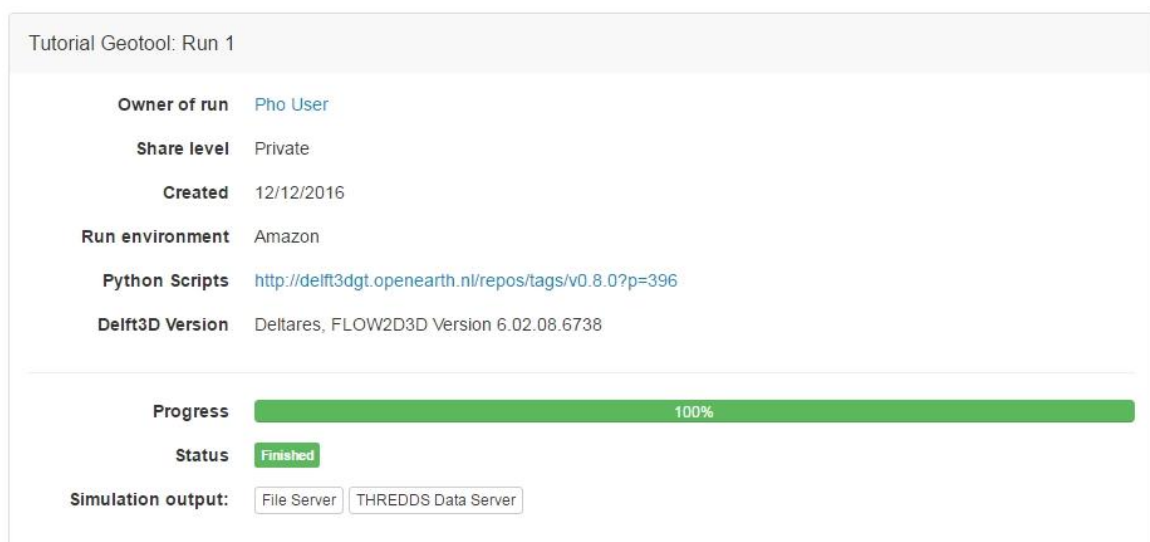
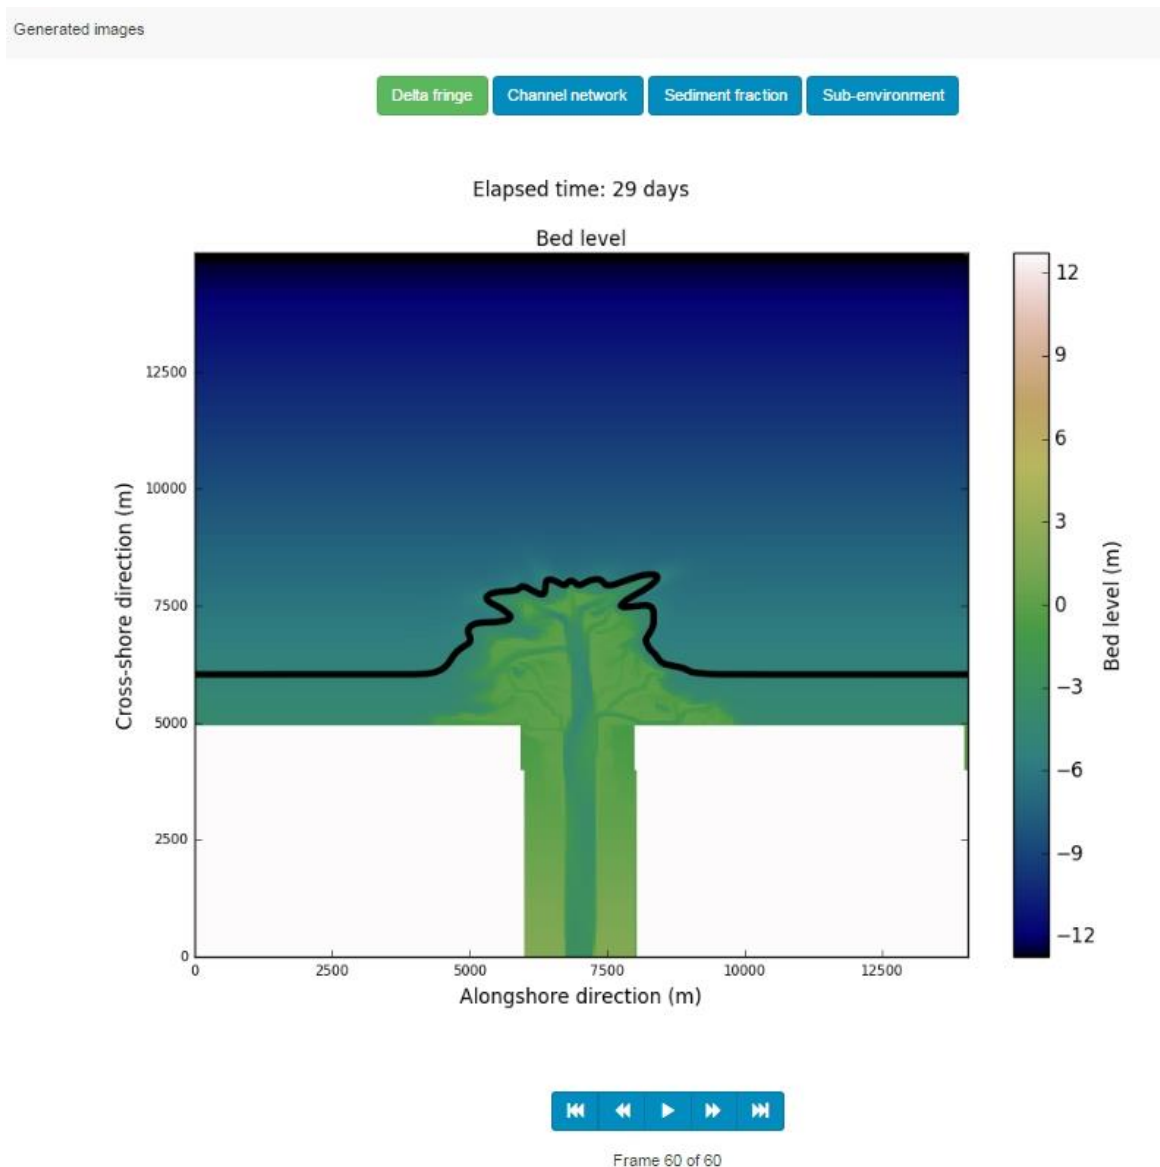
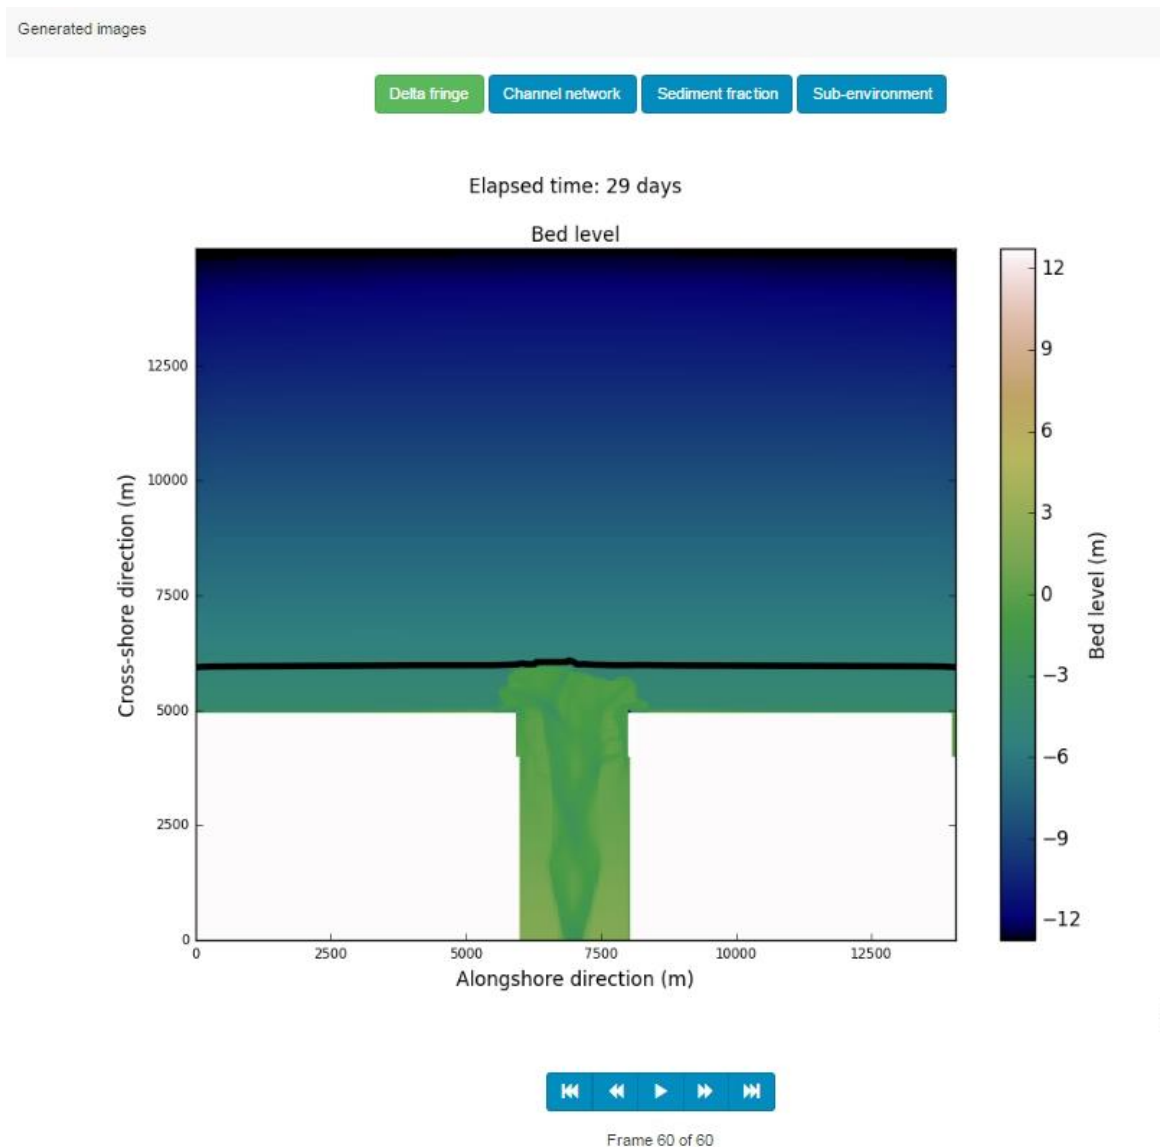

Figure 4.12 Simulation details of a selected run in the model details panel
Figure 4.13 Delta fringe and water depth at tie frame 60 of a selected run in the generated images bar, in the model details panel.
Figure 4.23 Delta fringe and water depth at time frame 60 in the generated images bar in the model details panel
- Select run 1 in the database content and inspect it in the right column (model details). Here you can see the details of the model, its progress, its status, and the link to access the input and output files 'File server' and 'THREDDS server' (Figure 4.12).
- Inspect the 'Generated images' bar for the Run 1 (Figure 4.12). Figure 4.13 shows the water depth and the delta fringe for Run 1 in the last time frame.
- Inspect the 'Generated images' bar for the Run 2 (Figure 4.12). Figure 4.23 shows the water depth and the delta fringe for Run 2 in the last time frame.